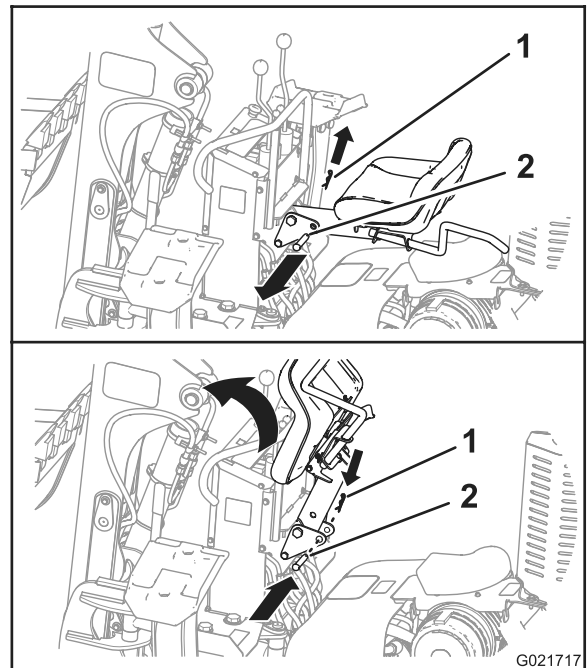

Figure 38
- A. Remove the hairpin from the seat lock pin (Figure 38).
- B. Remove the seat lock pin from the frame of the backhoe and the seat post (Figure 38).
- C. Pivot the seat post upward, and insert the seat-lock pin through the holes in the frame of the backhoe to hold the seat up to make room for removing the nose panel (Figure 38).
- A. Remove the seat lock pin and lower the seat post to the operating position (Figure 38).
- B. Install the seat lock pin through the holes in the frame of the backhoe and the seat post (Figure 38).
- C. Install the hairpin into the hole in the seat lock pin (Figure 38).